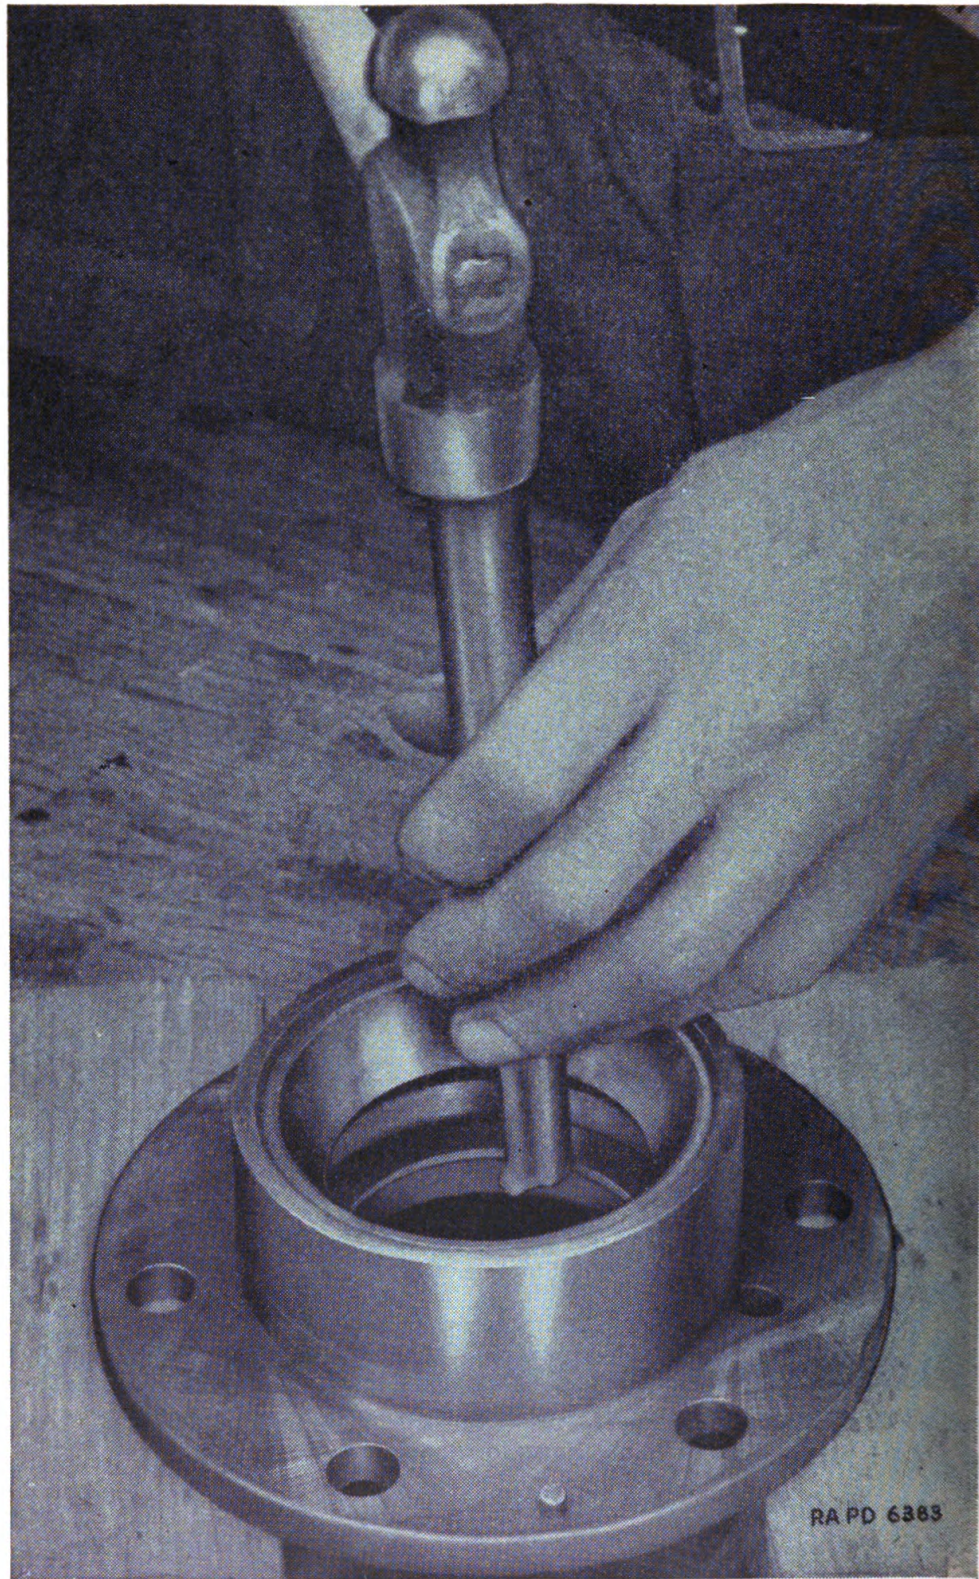

FIGURE 24.—Front axle drive pinion bearing cup removal.
(7) Remove roller bearing cups—brass drift, hammer. Tap bearing cups (A226007) from cage as shown in figure 24.